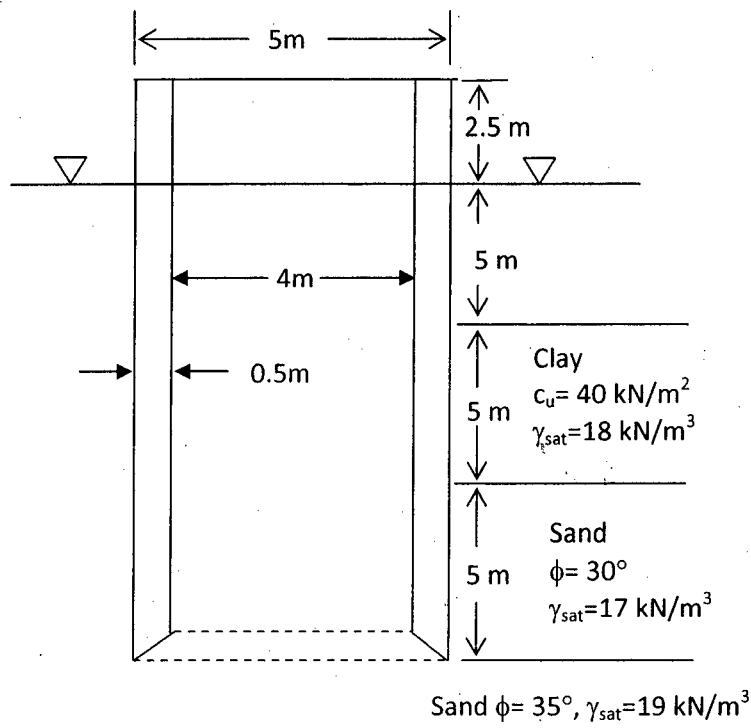

Fig. 5. for Q. 4(c)
(c) Will the caisson shown in the Fig. 5 be self sinking? If not determine (a) the required amount of ballast and (b) the thickness for self sinking. (11 ⅓)
7. (a) Determine the natural vibration period and damping ratio of the plexiglass frame model from the acceleration record of its free vibration shown in Figure 5. (8 1/3)